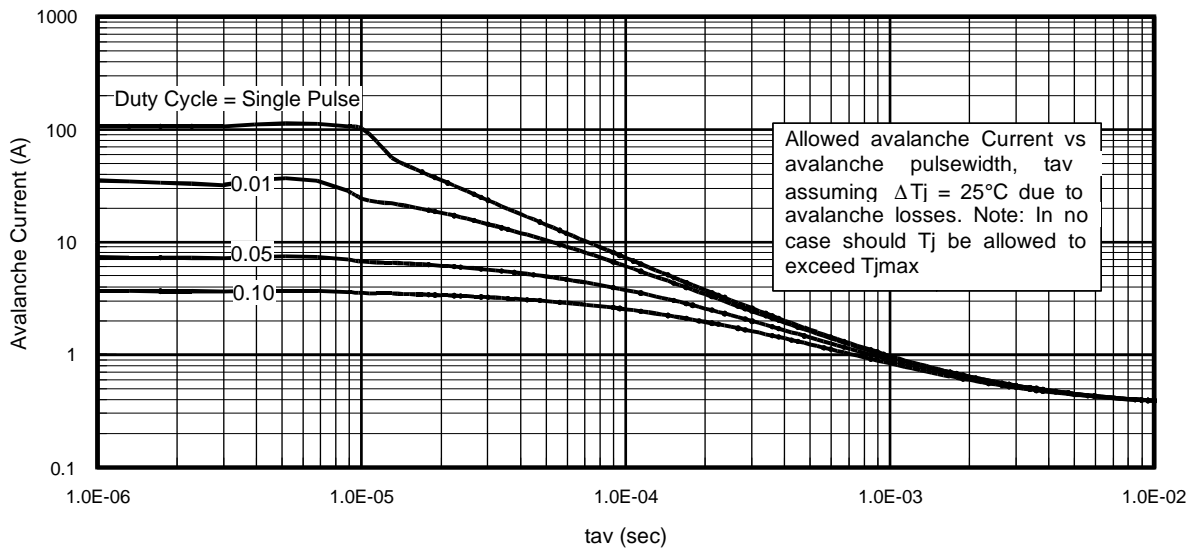

Fig 14. Typical Avalanche Current Vs. Pulsewidth
Notes on Repetitive Avalanche Curves , Figures 14, 15:
7. ΔT = Allowable rise in junction temperature, not to exceed T_{jmax} (assumed as 25°C in Figure 14, 15).